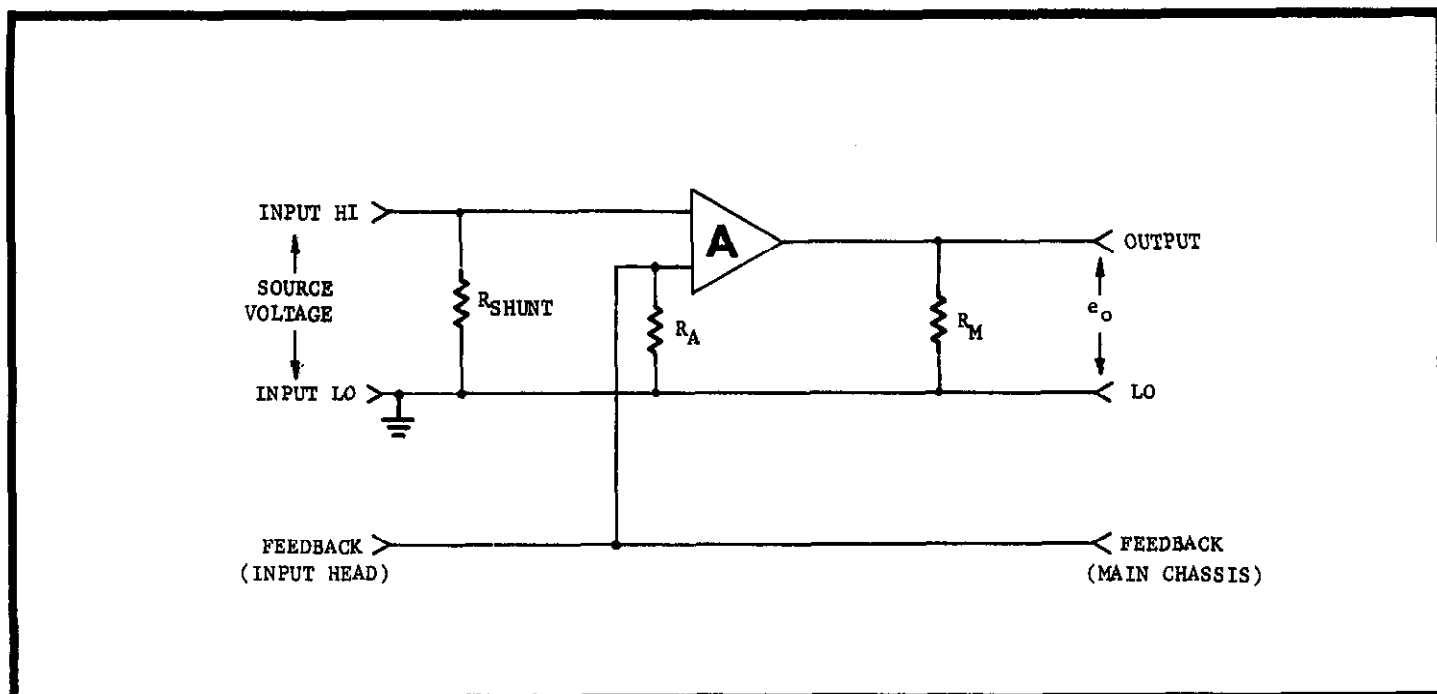

FIGURE 6. Voltage Function With Shunt Resistor R_S
1. Theory. The electrometer, when used as a microvoltmeter, can be illustrated as shown in Figure 6. In this configuration the instrument is useful for making sensitive measurements from 30 microvolts full scale to 30 volts. The sensitivity is adjusted by the RANGE Switch (S403) represented by R_A . The input voltage is represented by e_i . The voltage e_A is defined by the following expression,